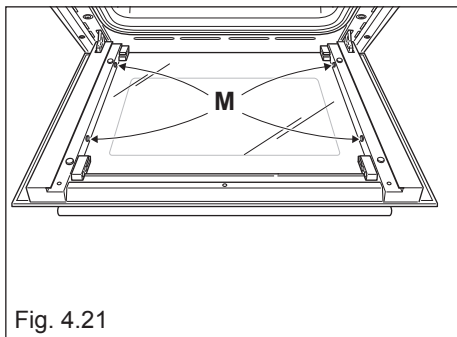

Fig. 4.21
- Check that the four rubber pads are in place ("M" in fig. 4.21).